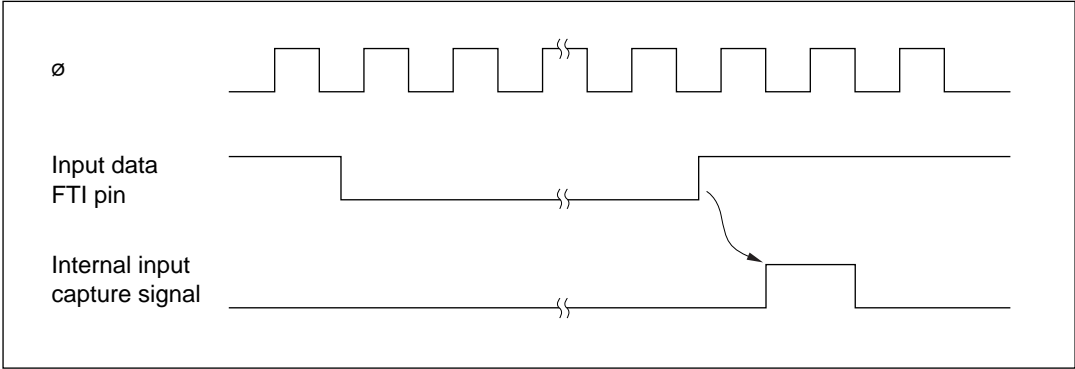

Figure 8-8 Input Capture Timing (Usual Case)
(1) **Input Capture Timing:** An internal input capture signal is generated from the rising or falling edge of the signal at the input capture pin FTIx (x = A, B, C, D), as selected by the corresponding IEDGx bit in TCR. Figure 8-8 shows the usual input capture timing when the rising edge is selected (IEDGx = 1).